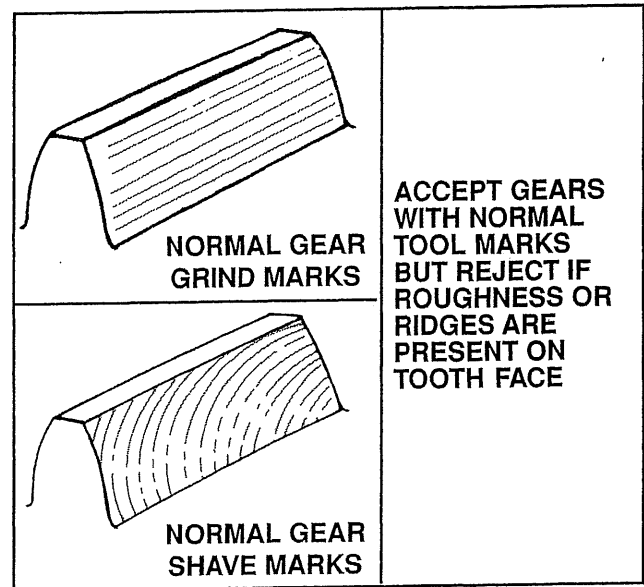

Figure 4-1. Normal Gear Tooth Tool Marks
**NOTE: Do not confuse contact patterns with normal tool marks that are a result of manufacture. Typical tool marks are shown in figure 4-1.**